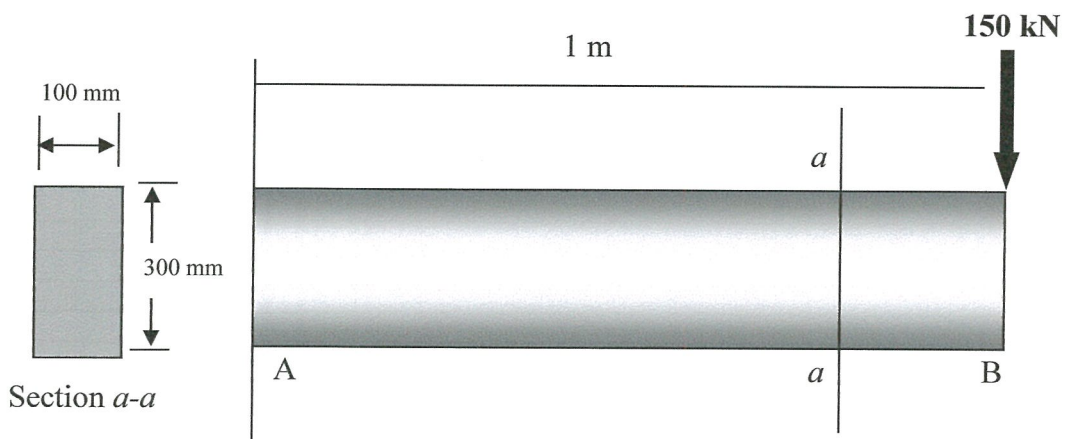

Figure Q6
- Q6** Figure Q6 shows the cantilevered aluminum alloy rectangular beam with $G = 26 \text{ GPa}$ and $E = 68.9 \text{ GPa}$.